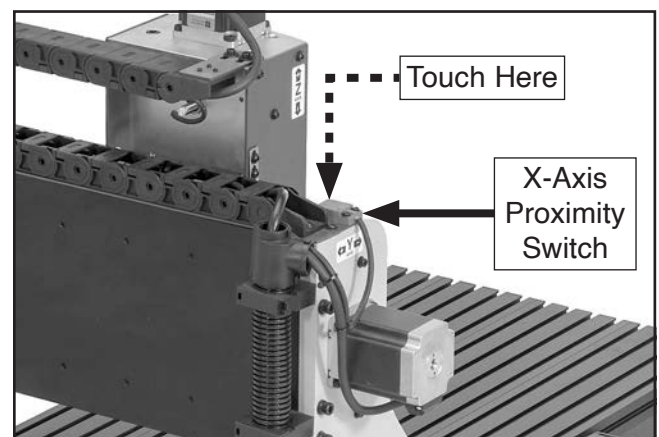

Figure 82. Location of X-axis proximity switch.
4. Touch X-axis proximity switch target with a scrap piece of iron/steel (see **Figure 82**).